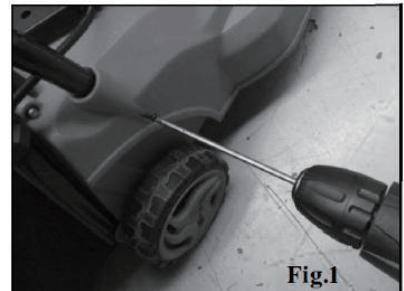

Fig.1
- Take the two lower handle bars and insert them into The two respective openings, then using the screwdriver tighten the screws on both sides. see fig. 1